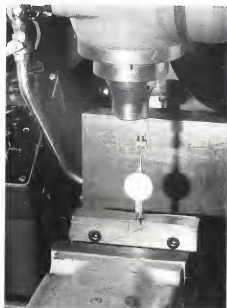

Figure 3
1. The most common use of a DTI on a milling machine, is aligning the fixed jaw of a vice with the main table. This can be parallel or at right angles to the table. Refer figures 3 and 4a. Adjust position of vice until the reading does not change as the table is moved in the required direction.